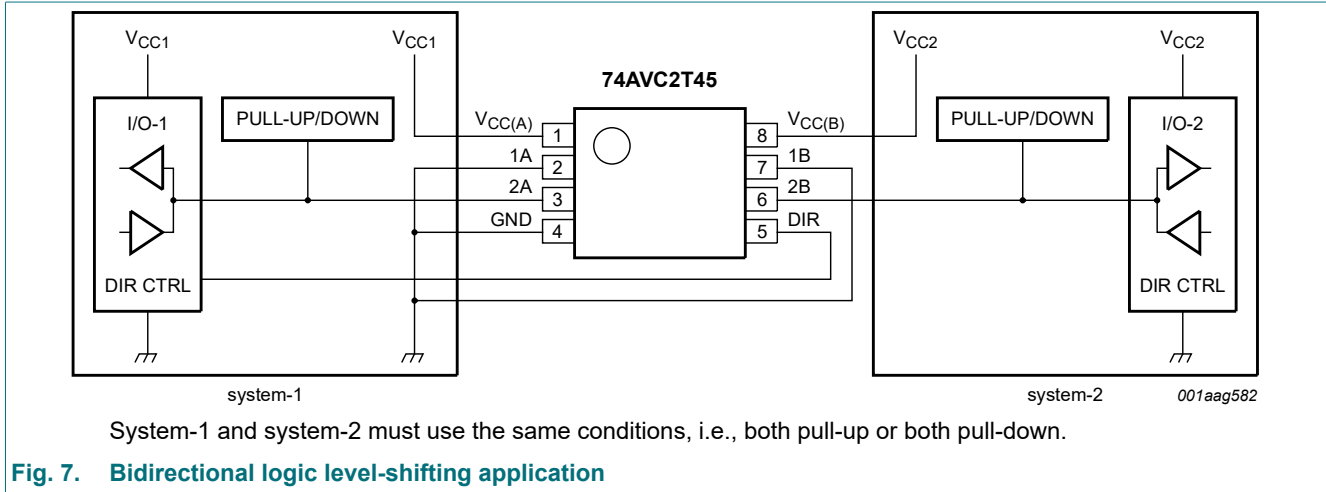

Fig. 7. Bidirectional logic level-shifting application
Fig. 7 shows the 74AVC2T45 being used in a bidirectional logic level-shifting application. Since the device does not have an output enable (OE) pin, the system designer should take precautions to avoid bus contention between system-1 and system-2 when changing directions.